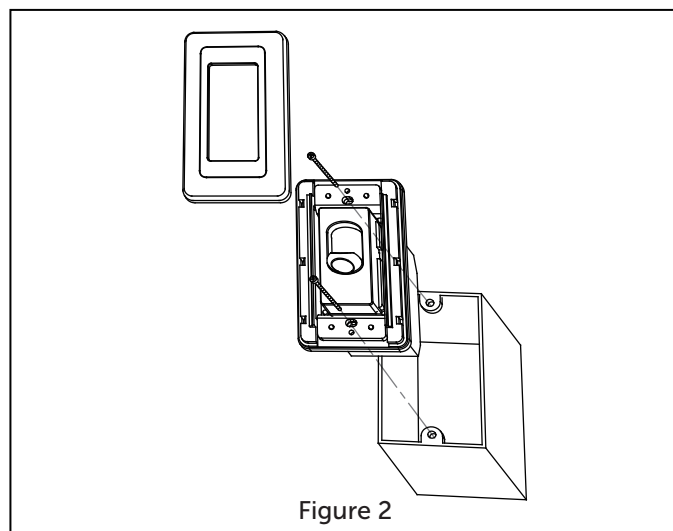

Figure 2
- Attach wall control unit to outlet box using the two screws provided. Then, the face plate attaches the wall control. (Figure 2)